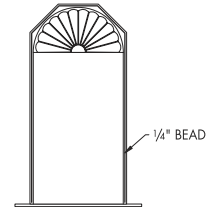

FIGURE 4
4. Apply a 1/4" bead of polyurethane construction adhesive along the top edge of the Niche tub (**SEE FIGURE 4**).